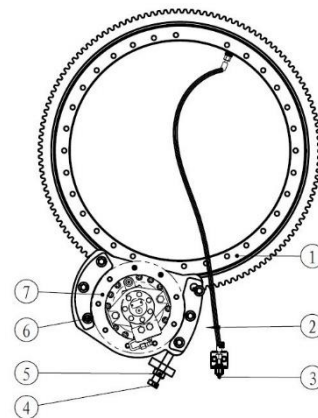

Figure 1-6 Slewing mechanism
- As shown in Fig. 1-6, find the grease port 3 on the side of the bearing, swing the turntable multiple times while filling grease until grease overflows from the upper and lower fixed surfaces of the bearing. Lubricating grease must be: Lubrication EP2 or equivalent.